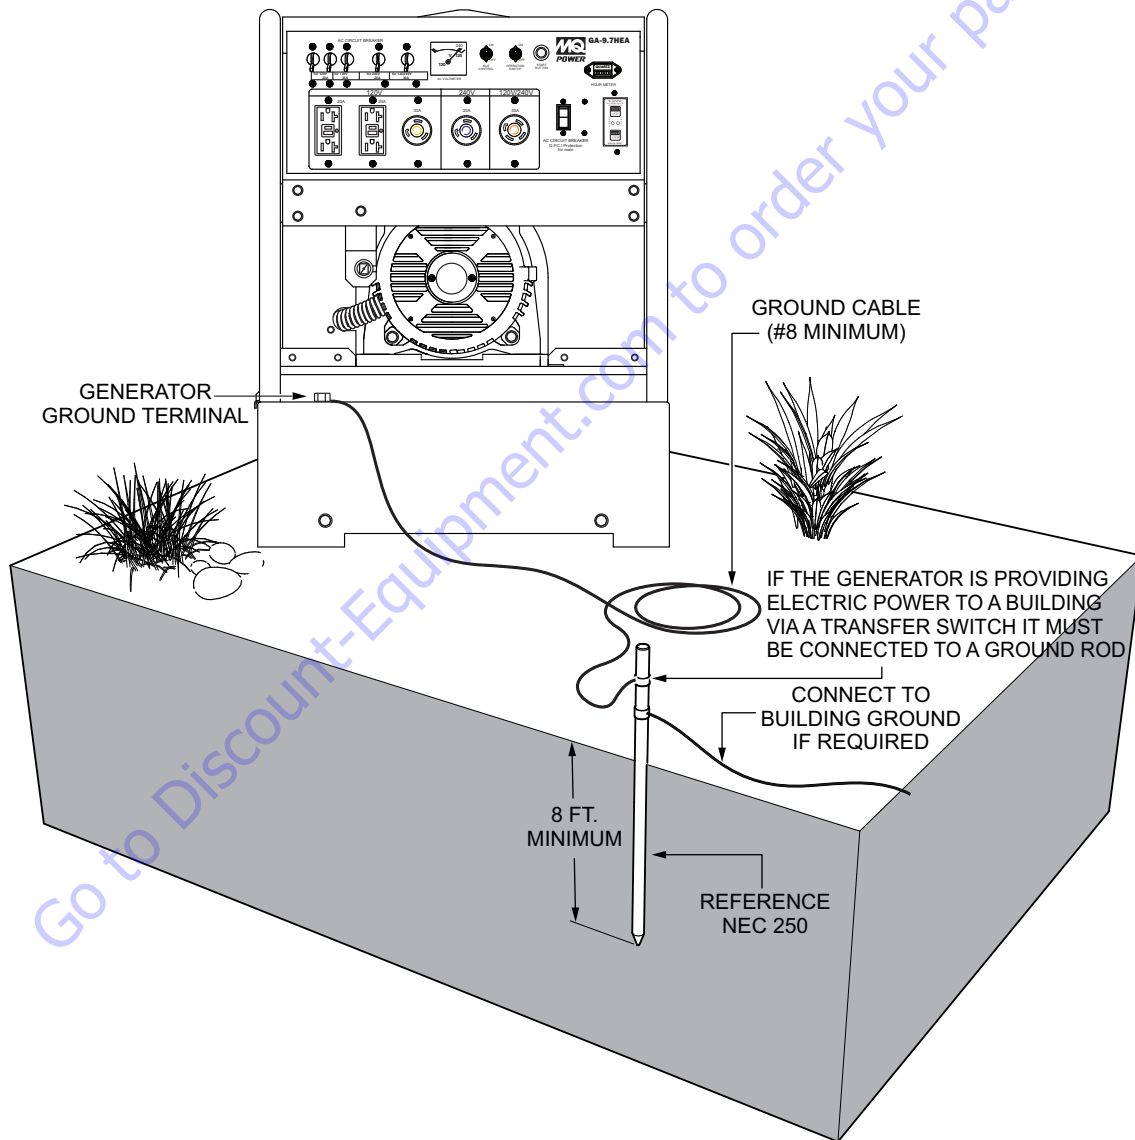

Figure 3. Generator Grounding
Connect one end of the ground cable terminal to the generator ground point (Figure 3). Connect the other end of the ground cable to a suitable earth ground (ground rod).
The Occupational Safety and Health Administration (OSHA) and the National Electrical Code (NEC) recommend that if the generator is providing electrical power to a structure, (home, office shop, trailer or similar) it **must** be connected to a grounding electrode system, such as a driven ground rod (Figure 3).
If applicable, to guard against electrical shock and possible damage to the generator, it is important to provide a good **EARTH** ground (Figure 3).
2. When grounding of the generator (Figure 3) is required, connect one end of the ground cable to the ground lug on the generator. Connect the other end of the ground cable to the ground rod (earth ground).
The generator is mounted on rubber vibration isolators that have a steel base backplate which is attached to the protective steel pipe carrying frame. The protective carrying frame is made of steel tubing and fully wraps around the generator to protect against damage. See Figures 3, and 4 for the basic controls and indicators for the GA9.7HEA generator.